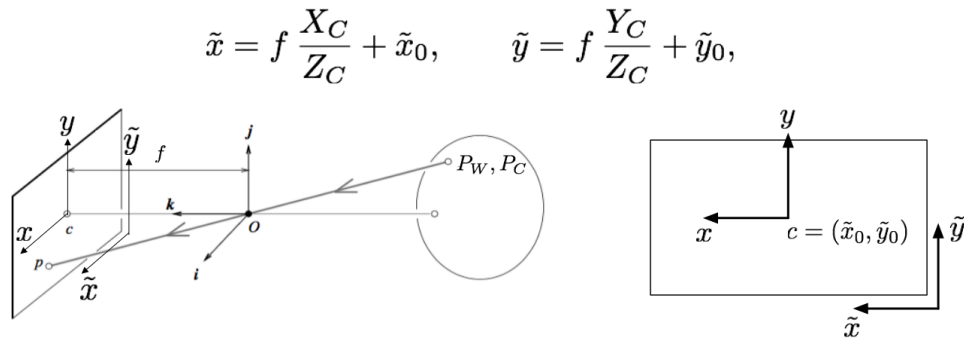

Figure 7: Projecting a point from pixels to camera frame
-  Given the focal lengths and principal points, edit `project_pixel_to_ray` in detector.py to compute the ray/direction (as a unit vector) of the stop sign in the camera's frame of reference. You may find Figure 7 helpful (note that in our case u in the code would be \tilde{x} in the diagram, cx in the code would be \tilde{x}_0 in the diagram and that we have different focal lengths for each axes of this camera).